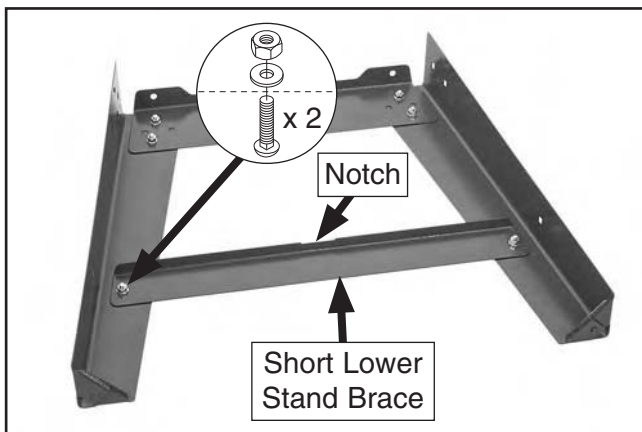

Figure 11. Short lower stand brace attached to legs.
2. Attach each of the short lower stand braces to one of the assemblies from **Step 1**, as shown in **Figure 11**, with (2) M8-1.25 x 16 carriage bolts, (2) 8mm flat washers, and (2) M8-1.25 hex nuts.